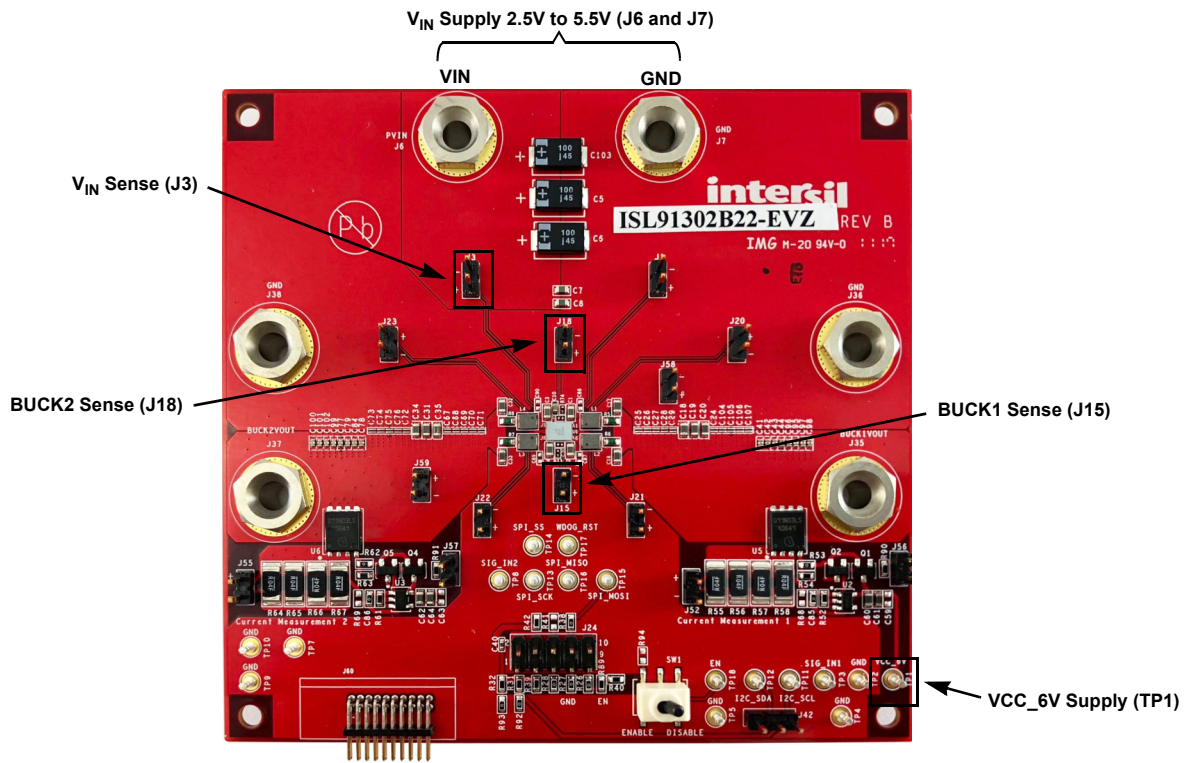

Figure 11. ISL91302B22-EVZ Efficiency Measurement Connections
- (1) Connect a power supply at J6 (V_{IN} supply), with the voltage setting between 2.5 and 5.5V. Set its current limit high enough to support the maximum load current with additional headroom. If the power supply supports remote sense lines, use a Kelvin connection on J3. Otherwise, connect a multimeter at J3.
- (2) Apply 6V to TP1 (VCC_6V) to initiate the startup sequence and all three outputs will turn on. To get an accurate single channel measurement, disable the other two outputs using the GUI.
- (3) Turn on the electronic load at VOUTx. The connection should be made at J35 (VOUT1) or J37 (VOUT2). Make sure the load current does not exceed 5A per phase, and the correct wire size is used when attaching the electronic load.
- (4) Measure the output voltage with a multimeter. The voltage should regulate within datasheet spec limits.
- (5) To determine efficiency, measure input and output voltages at the Kelvin sense test points (S+ and S-), which are located at J3 (V_{IN} SENSE) and J15 (BUCK1 SENSE) or J18 (BUCK2 SENSE) headers. Measure the input and output currents from the V_{IN} power supply and the electronic load. Calculate efficiency based on these measurements. For detailed setup information, refer to Figure 11 on page 10.